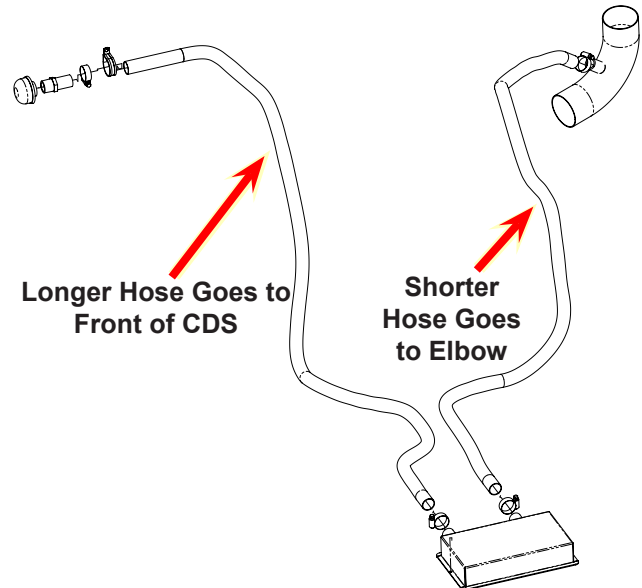

Figure 8. Route and Connect 2 Flex Hoses
5. Connect the two 1" flex hoses to the new cover over the yaw sensor. Use the provided hose clamps to secure the hoses (see Figure 8).